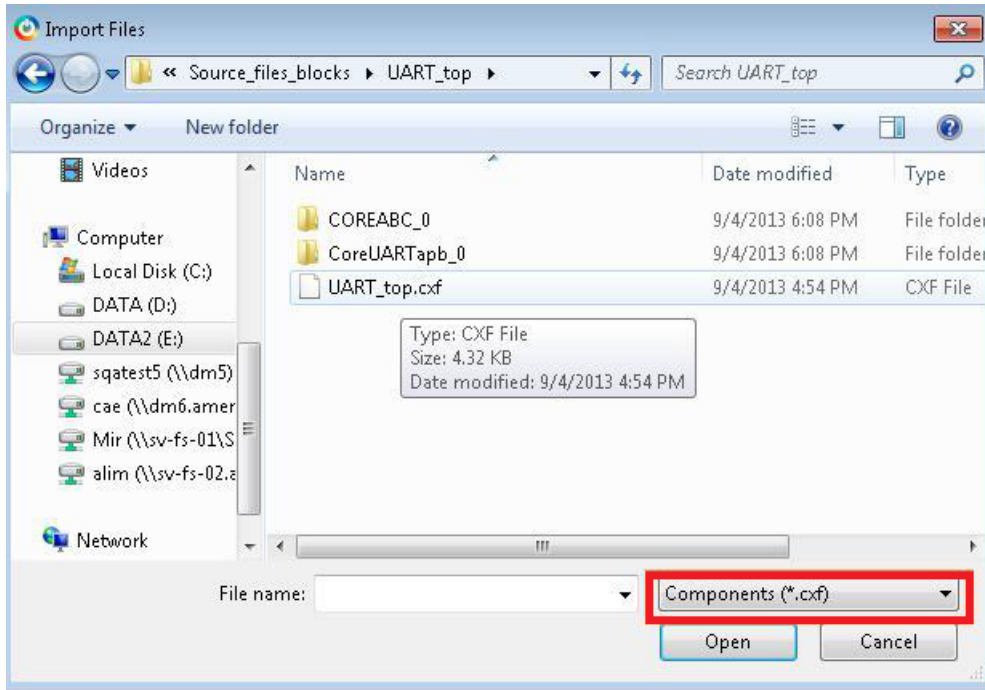

Figure 26 Importing the Files Component Dialog Box
- 38. Browse to **C:\Coresyssvc_lab\Source_files_blocksUART_top** folder and select **UART_top.xcf**. Click **Open** to import UART_top SmartDesign block, as shown in Figure 26.